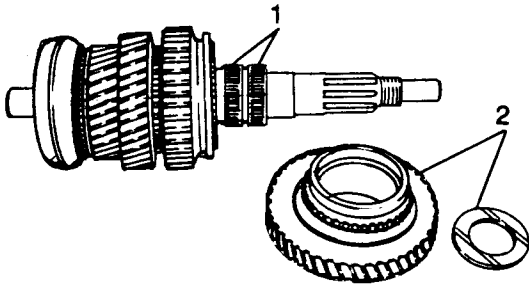

Fig H1.138
- (1) Refer to Fig H1.138. Remove the two roller bearings (1) for 1st speed. This pinion and its washers (2) must also be removed from the casing where they remain housed when removing the casing.